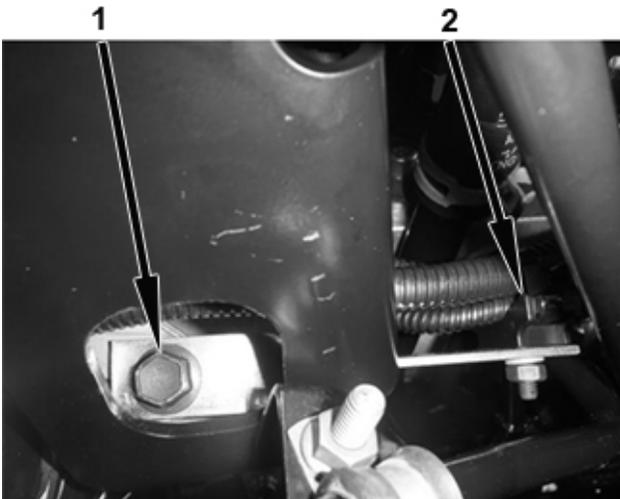

Figure 21
8. Install extension on bolt removed in step 6 but do not install alternator ground harness. Reinstall bolt with saddle facing inward towards engine. Do not tighten bolt at this time. The ground harness will be relocated in a later step (Figure 21).